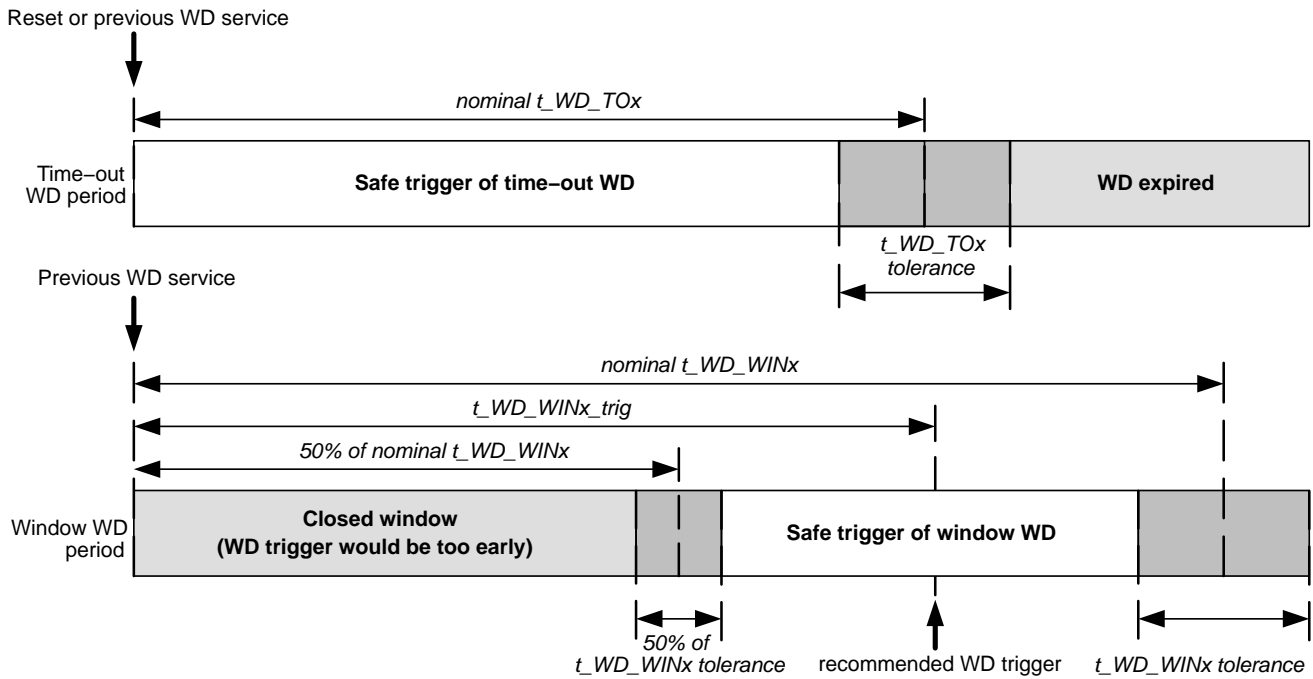

Figure 15. Structure of the Time-out and Window Watchdog Period
The available modes of the watchdog timer are shown in Figure 14, with the watchdog period specified in Figure 15:
- The watchdog trigger moment falls into the correct watchdog trigger interval (see Figure 15) – in the case of the time-out watchdog, it arrives before the watchdog period expires; in the case of the window watchdog, it arrives during the second half of the window interval. In both cases, tolerance of the watchdog timing parameters shall be taken into account.